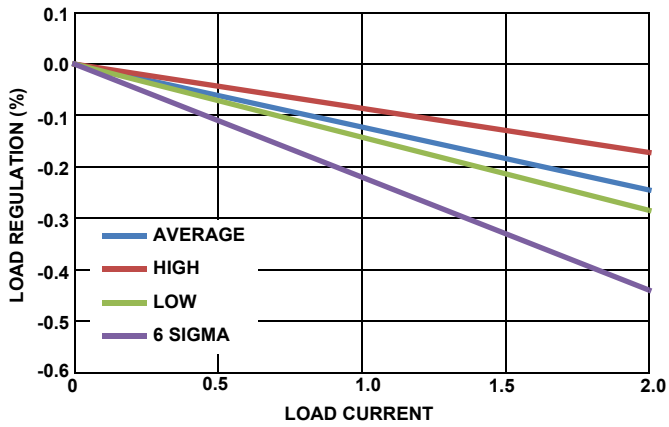

FIGURE 12. LOAD REGULATION,  $T_A = +105^\circ\text{C}$ ,  $2.7\text{V}_{IN}$ ,  $0.6\text{V}_{OUT}$ ,  $1\text{MHz}$
- Not tested in production. Characterized using evaluation board. Refer to Figures 12 through 14 load regulation diagrams.  $+105^\circ\text{C}$   $T_A$  represents near worst case operating point.